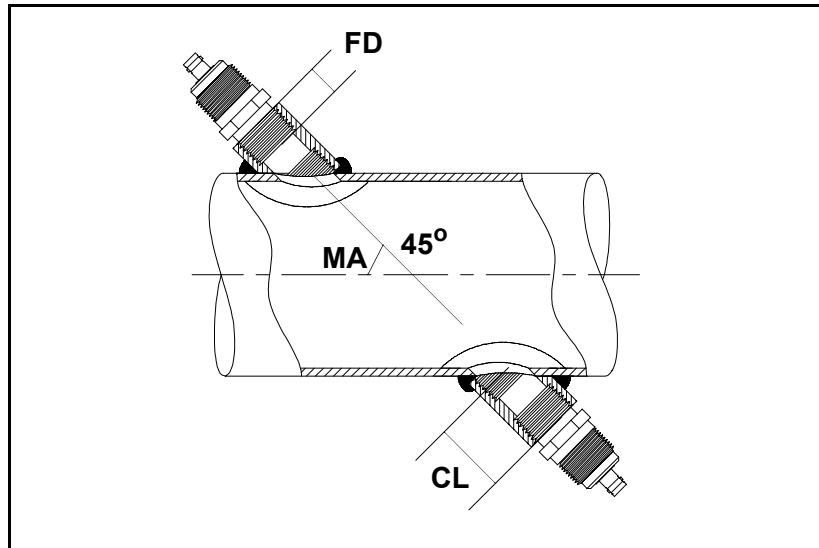

Figure D-2: Determining the Pipe Coupling Length
Use Figure D-2 to properly measure the coupling length. Typically, the transducer face is positioned just outside the inside diameter (ID) of the pipe, or slightly retracted inside the coupling.